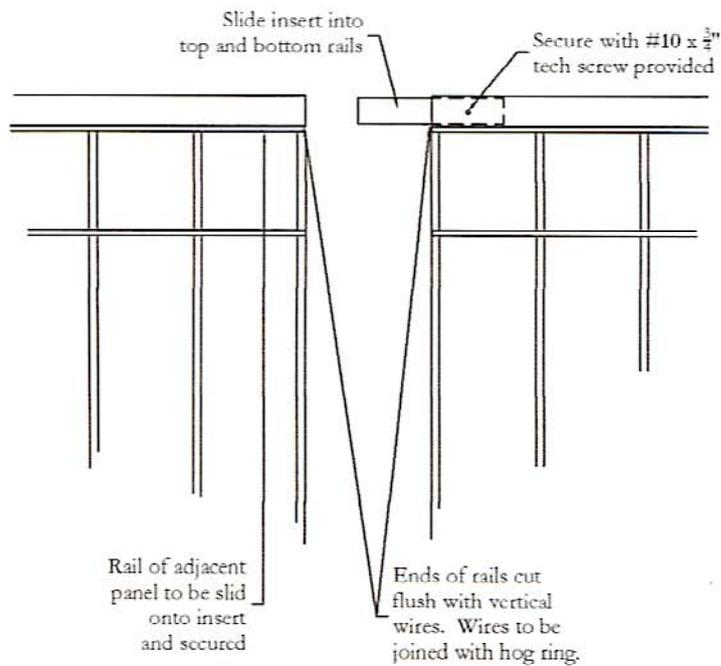

FIGURE 2
7. **For Passby Systems** Fence sections should be coupled through use of inserts provided(See Figure 2) and secured to line posts through the use of the 1 ½” Tech screws provided). Wires should abut each other allowing horizontal lines to be continuous (See Figure 2). These lines may be continued for as long a distance as the slope will permit.